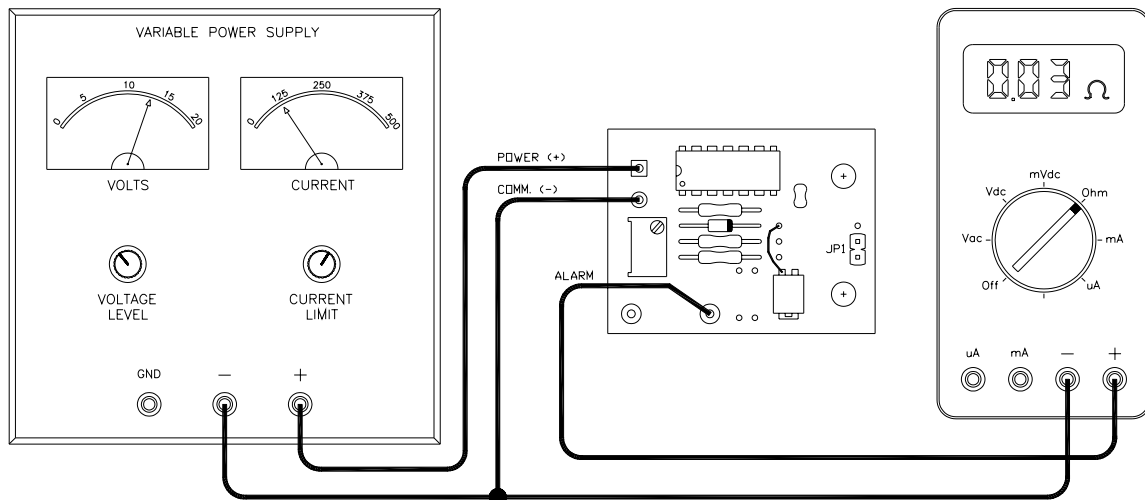

Figure-5
It is possible to change the level at which the alarm triggers by making adjustments to the rectangular blue rheostat on the left side of the voltage monitor board. Total adjustment range is approximately one volt. The equipment setup shown in Figure-5 represents the most practical method to execute this process. In addition, a small jewelers type blade screwdriver is necessary.
- b) Set the adjustable power supply to the desired trigger point. We will use 11.35 as an example here. Connect the equipment shown as in Figure-5.